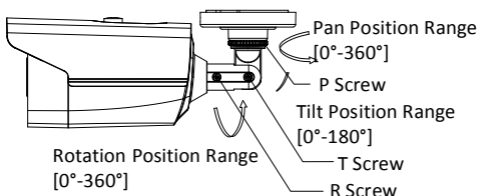

Figure 2-9 3-axis Adjustment
5. Adjust the camera according to Figure 2-9 to get an optimum angle.